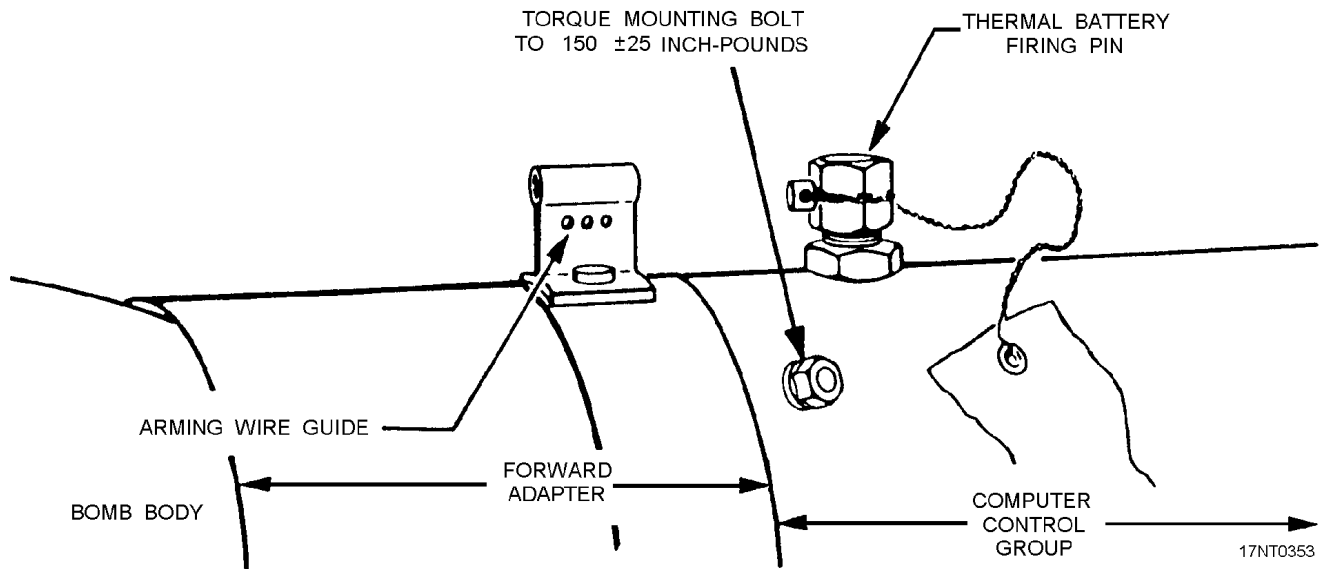

Figure 13-22.—Computer control group installation.
2. Ensure thermal battery firing pin assembly safety wire and pullout pin is installed (fig. 13-22).
8. Position CCG on forward adapter (fig. 13-22), and align thermal battery firing pin assembly with arming wire guide on forward adapter.